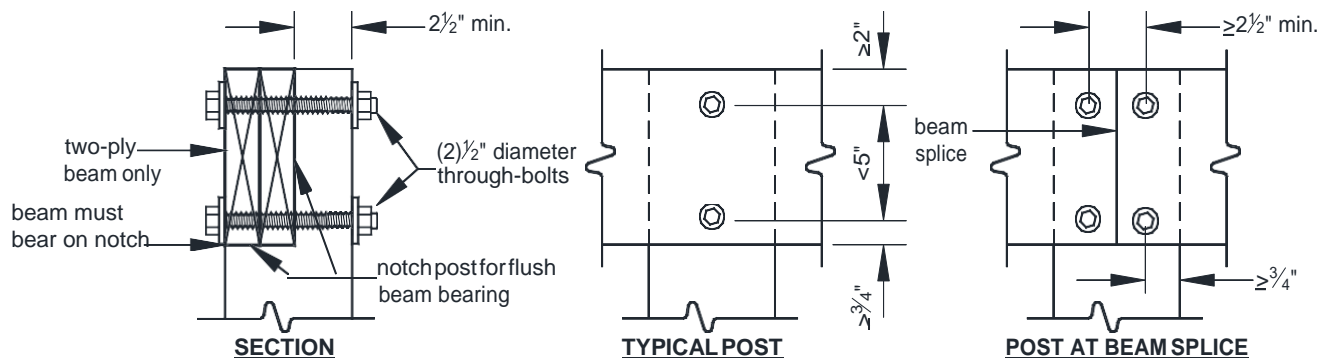
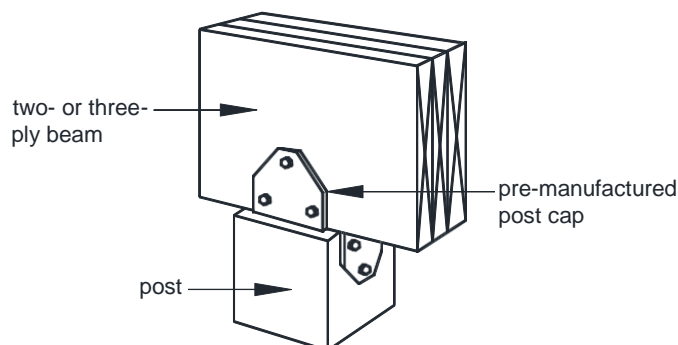

FIGURE 16: NOTCHED 6x6 POST-TO-BEAM CONNECTION
FIGURE 17: POST CAP CONNECTION
- Beams shall be attached to 6x6 posts using one of the methods shown in FIGURE 16 or 17. Beams shall be attached to 4x4 posts using the method shown in FIGURE 17.